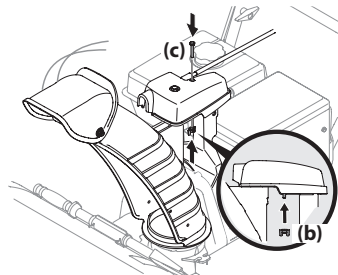

Figure 2-32
4. Finish securing chute control head by installing hex screw (c) and wing nut (b) removed in Step 1. See Figure 2-32.